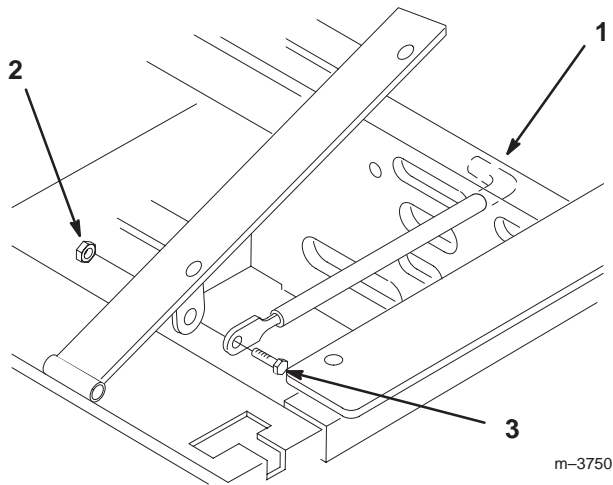

Figure 3
1. Tilt the seat up. Remove the locknut (5/16 inch) from the bolt attaching the seat retaining rod to the seat frame (Fig. 3).
2. Remove the retaining rod from the seat and insert the "L" shaped end of the rod into the hole directly above the left-side hydraulic pump (Fig. 3).
3. Place the seat retaining rod to the outside of the mounting tab of the seat frame and secure it with the bolt (5/16 x 1 inch) and locknut (5/16 inch) (Fig. 3).